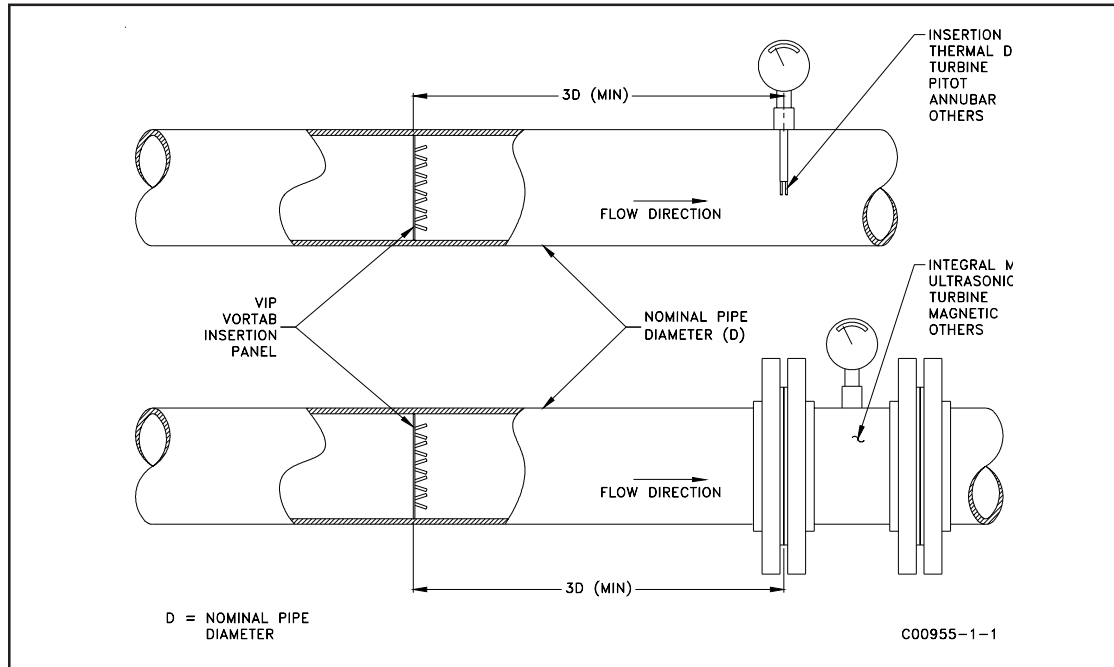

Figure 2-1. VIP Installation Recommendations
- The VIP's base plate, in which the tabs extend from, should be positioned at a minimum distance of three nominal pipe diameters (3D) upstream from the flow meter location. See Figure 2-1.